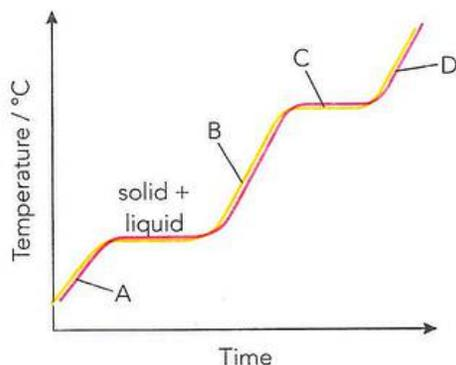

Figure 1.13: Heating curve for substance X.
- 7 As an alternative to following the cooling of a substance, it is possible to draw a heating curve. Figure 1.13 shows the heating curve for substance X.